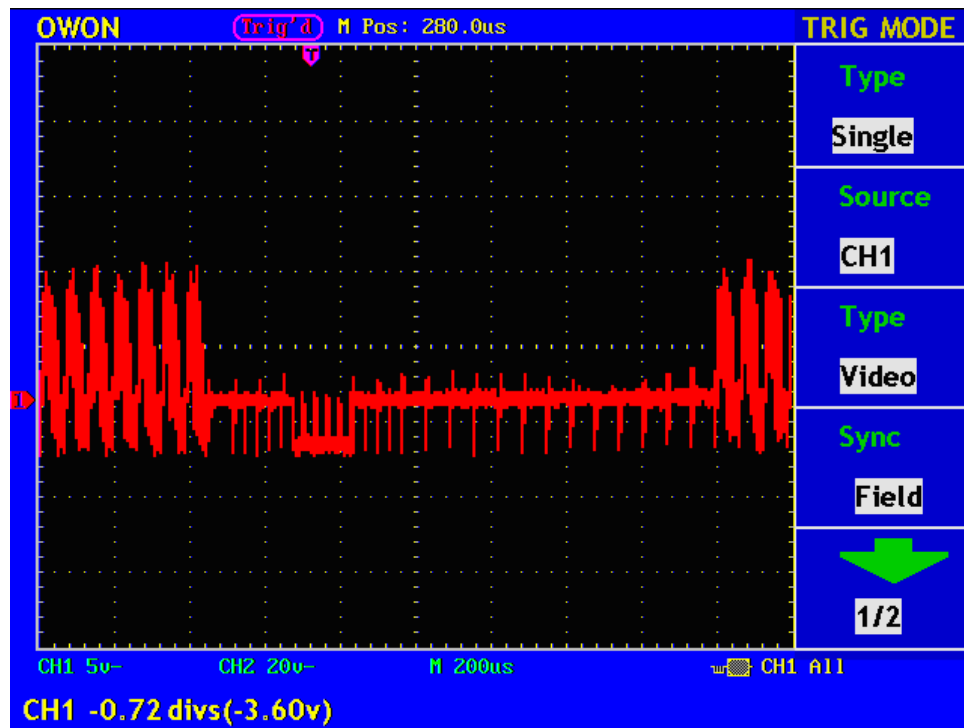

Fig.72 Wave Form Obtained from Video Field Trigger
6. Adjust the **VOLTS/DIV**; **VERTICAL POSITION** and **SEC/DIV** knobs to obtain a proper wave form display (see Fig.72).